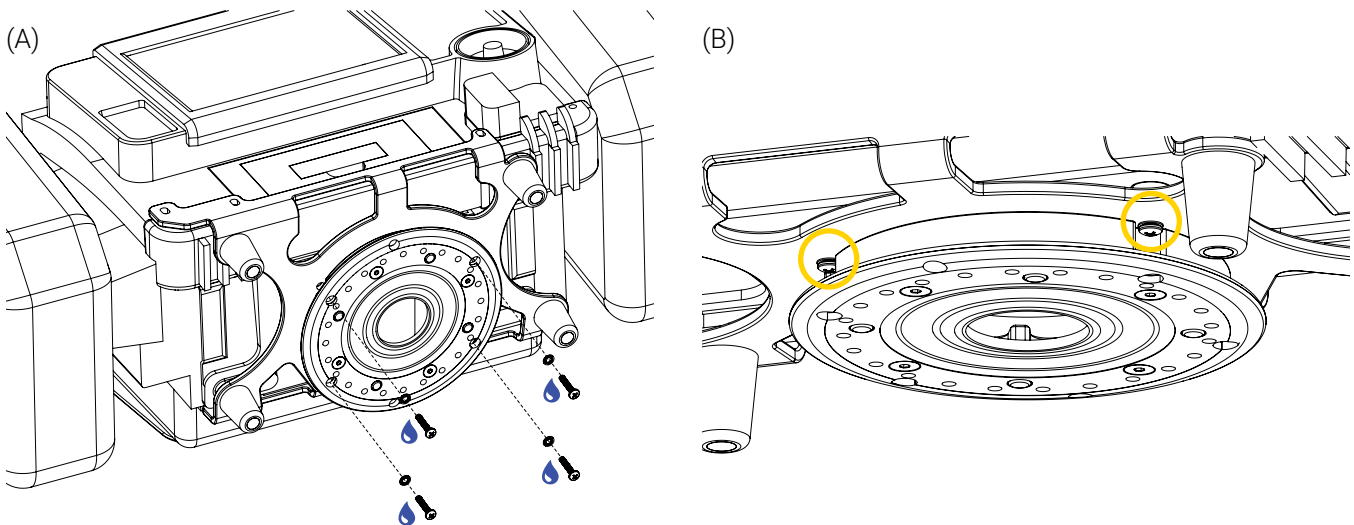

Figure 5: Installing the medical device in the Bracket Pro Serie 35 - HD (1 of 2)
3. Holding the bracket over the medical device, flip the monitor/defibrillator on its back to access and align the screw holes under the bracket (Figure 5 A).
4. Secure the bracket under the medical device using four (4) pan head screws 8-32 x 7/8 in., thread lock adhesive, four (4) lock washers and a Phillips screwdriver #2 (Figure 5 A).
5. Ensure that the bottom screws have been properly inserted and tightened (Figure 5 B; 2 of 4 screws shown).